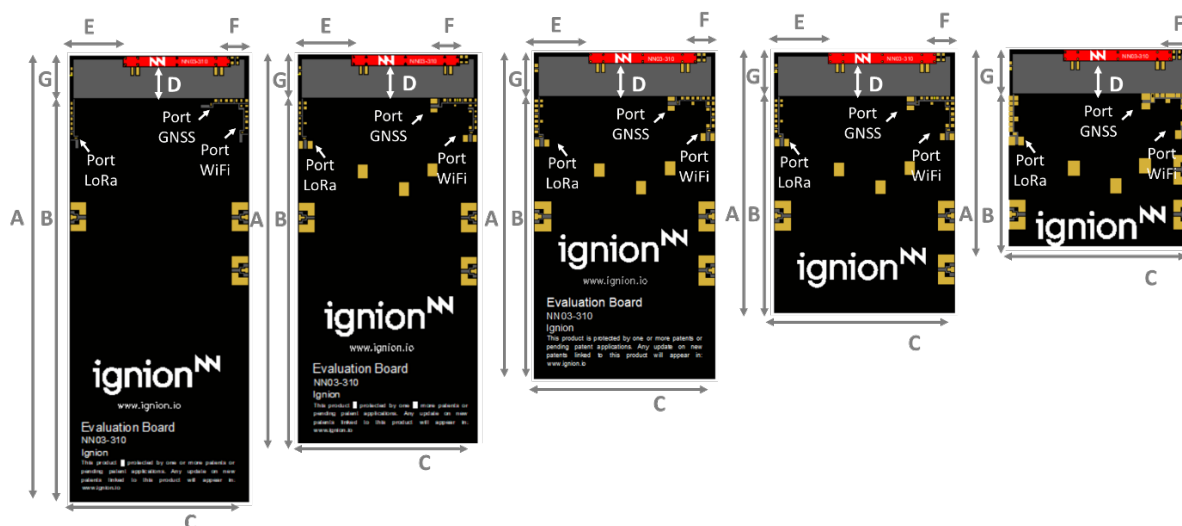
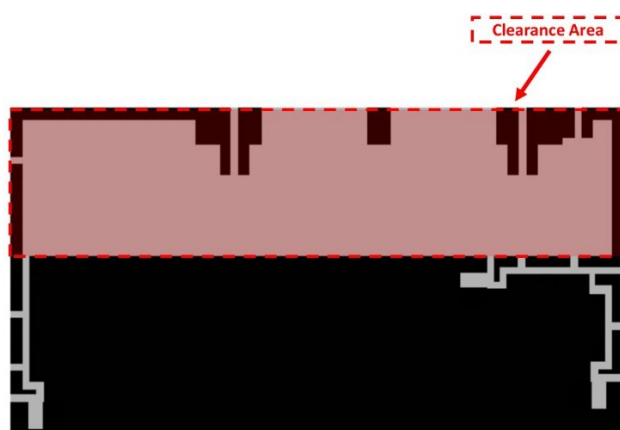
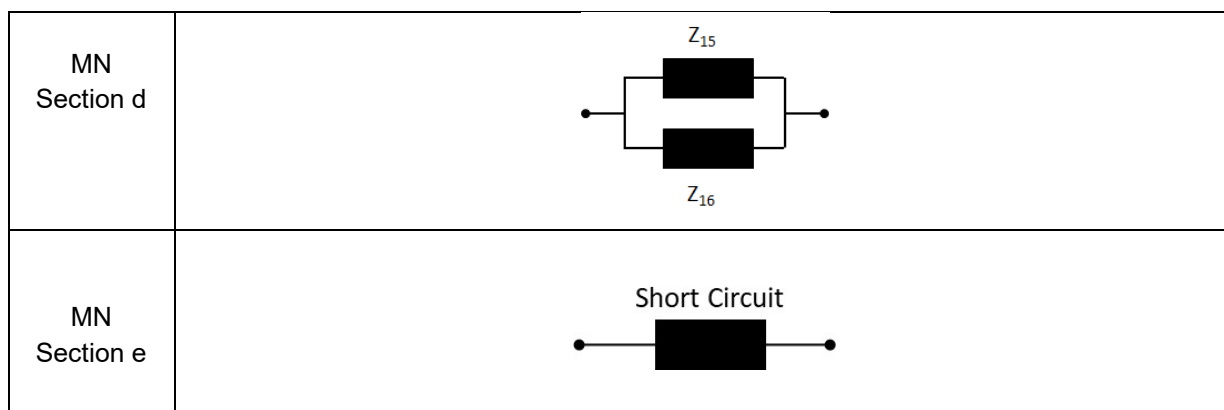
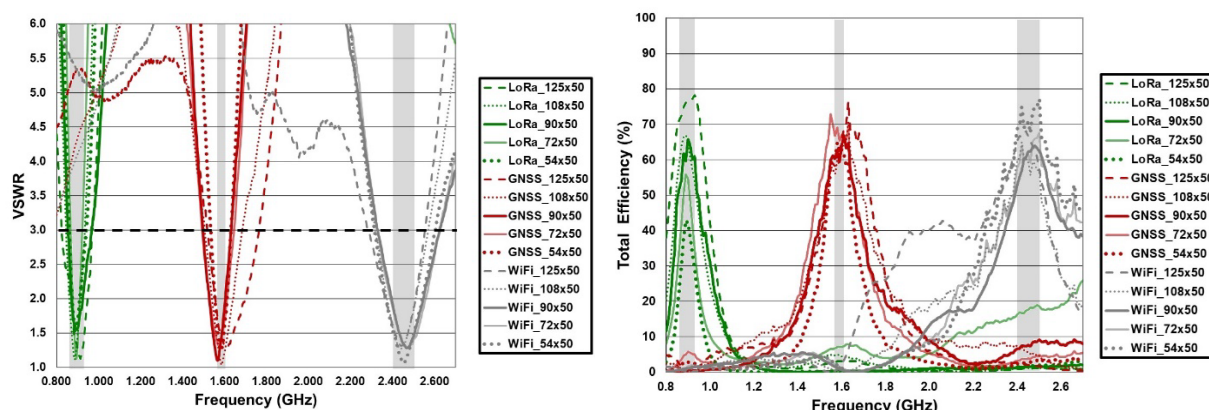

Figure 1 - Evaluation Board for providing operation at 863 to 928 MHz (Port 1), 1561 – 1606MHz (Port 2) and 2400 – 2500MHz (Port 3).
Figure 3 – TRIO mXTEND[™] chip antenna component footprint
Figure 4 – Matching Networks implemented in the Evaluation Board (Figure 1).
Figure 5 – VSWR and total efficiency for the different bands covered by the different sized evaluation boards from Figure 1.
The board size impacts the performance of any antenna. The advantage of using the TRIO mXTEND[™] is that a matching network for each antenna port (LoRa, GNSS, and Wi-Fi) can be used to easily retune the antenna for ensuring that the power delivered by the RF module is always effectively radiated. In contrast to what happens with other antenna solutions, the detuning effect appearing when modifying the board size can be easily compensated through the adjustment of the matching network components. IoT designers do not need to make a complete re-design of the board from scratch anymore. They just need to adapt the frequency response through the variation of the matching network components according to the new PCB (Printed Circuit Board) conditions, without requiring any PCB re-layout. This section will present the proposed matching network and specs obtained in the corresponding evaluation boards of different representative IoT device sizes (Figure 1). The recommended chip component and matching network layout are depicted in Figure 3 and Figure 4.
All matching networks depicted below were designed with the objective of obtaining the lowest reflection coefficient (S_{11}) and the highest antenna efficiency in the frequency bands required to cover the whole spectrum (Figure 4, Figure 5, Figure 6). From 863-928MHz for the LoRa case, 1561-1606 MHz for GNSS, and 2400 -2500MHz for Wi-Fi. The PCB size affects the performance of any antenna, not only in terms of radiation efficiency, but also in terms of impedance. This may mean detuning, which can be easily solved in Virtual Antenna[™] solutions, such as the TRIO mXTEND[™] by readjusting the matching networks properly. That is why each PCB size has its own matching networks to optimize the performance in the three bands. The minimum number of components for this purpose is used to reduce as much as possible their associated losses. The use of high-quality factor (Q) and tight tolerance components (e.g. Murata components (Figure 4, Figure 5, Figure 6)) is recommended to avoid undesired efficiency losses in the matching network, and to ensure the repeatability of the solution.
The TRIO mXTEND™ antenna offers a wide bandwidth, allowing for a single tuning for all frequency band across the different PCB sizes for LoRa frequencies ranging from 863-928MHz, GNSS (1561-1606MHz), and Wi-Fi (2400-2500MHz) (Figure 5). The VSWR is below 3 for the whole three frequency ranges.
Table 2 – Total efficiency (%) comparison considering the different PCB sizes (Figure 1)